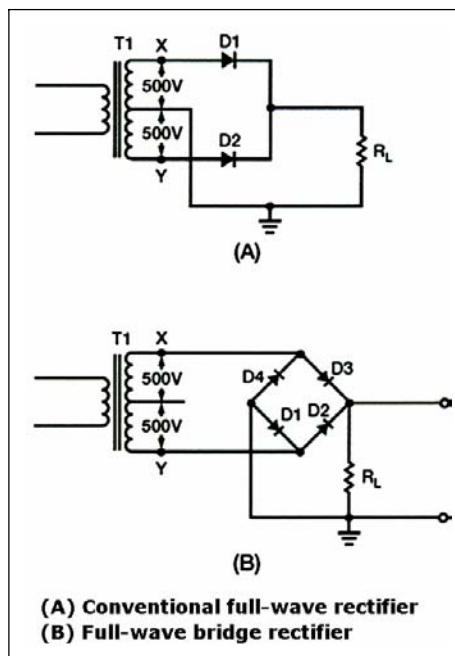

Figure 4-9. Comparison of a Conventional and Bridge Full-wave Rectifier
as that of the conventional full-wave circuit. This may be shown by assigning values to some of the components (see Figure 4-9, views (A) and (B)). Assume that the same transformer is issued in both circuits. The peak voltage developed between points X and Y is 1,000 volts in both circuits. In the conventional full-wave circuit shown in view (A), the peak voltage from the center tap to either X or Y is 500 volts. Since only one diode can conduct at any instant, the maximum voltage that can be rectified at any instant is 500 volts. Therefore, the maximum voltage that appears across the load resistor is nearly (but never exceeds) 500 volts. This is a result of the small voltage drop across the diode. In the bridge rectifier shown in view (B), the maximum voltage that can be rectified is the full secondary voltage, which is 1,000 volts. Therefore, the peak output voltage across the load resistor is nearly 1,000 volts. With both circuits using the same transformer, the bridge rectifier circuit produces a higher output voltage than the conventional full-wave rectifier circuit.